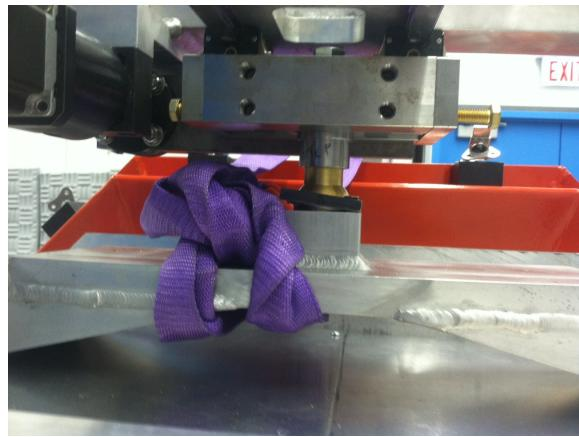

Figure 5
3. Allen wrench off the top piece holding in the pin. See Figure 5.